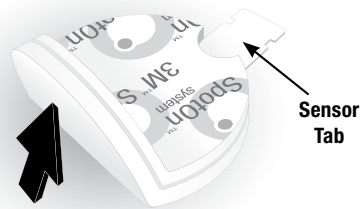

Figure 10: Remove the sensor
2. Starting at the edge of the SpotOn sensor, gently remove the SpotOn temperature sensor from the patient (Figure 10).